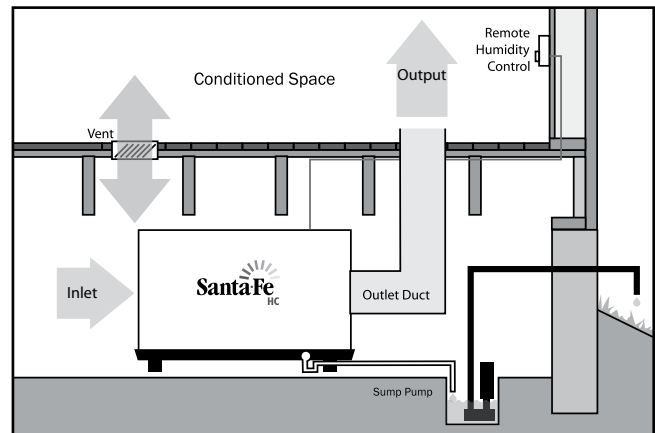

Figure 4: Installation in a remote area with ducted outlet only
3.1D In A Remote Area, Duct Outlet Only (fig. 4)